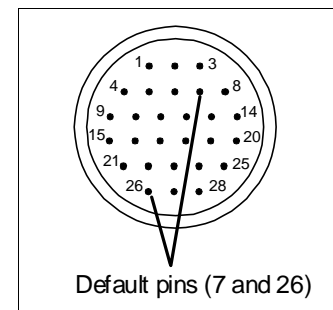

Figure A-11 Host Connector
2. Locate pins 7 and 26 on the host connector (figure A-11) and mark with a pen.